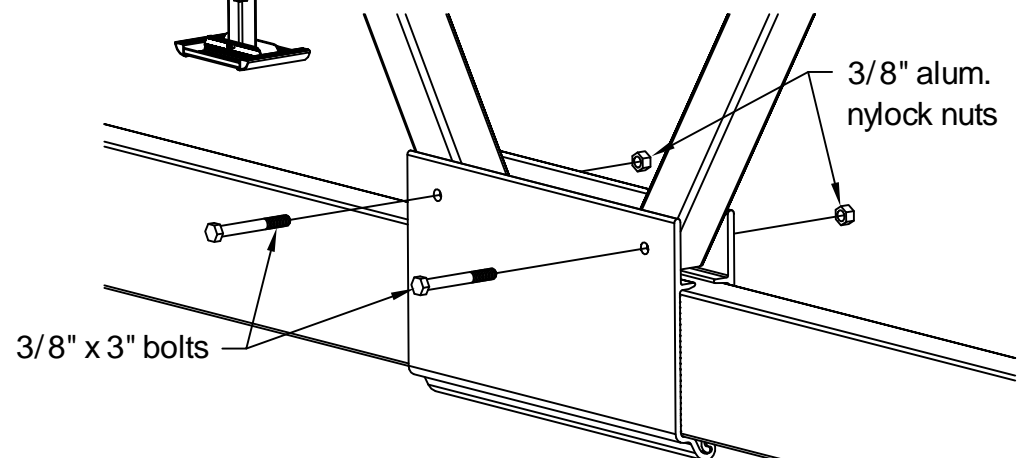

Fig. 3B
- ❑ Attach the diagonal V-braces to the V-brace clamps and the upper clamps using (4) 3/8" x 3" bolts and (4) nylock nuts as shown in Fig. 3B.